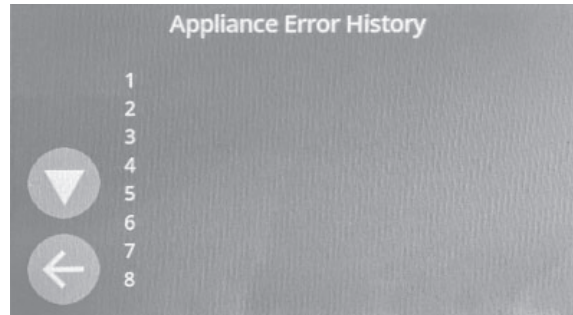

Figure 46
3. Press  button to view the appliance error history. This screen (Figure 46) will show the last 64 errors that have occurred on the oven.